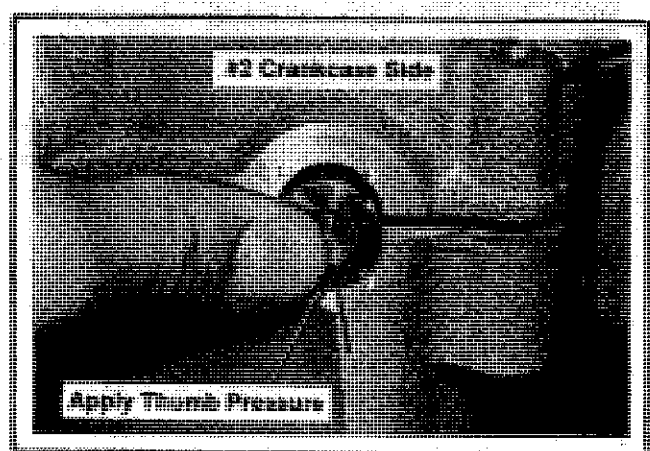

Figure 11-20. Installing #2 Crankcase Side.
- Place the #2 crankcase side on the #1 side. Apply thumb pressure on the plug as the sides are brought together. Maintain pressure on the plug as the crankcase fasteners are installed and tightened. This ensures the plug shoulder is bottomed tightly against the crankcase. Refer to Figure 11-20.